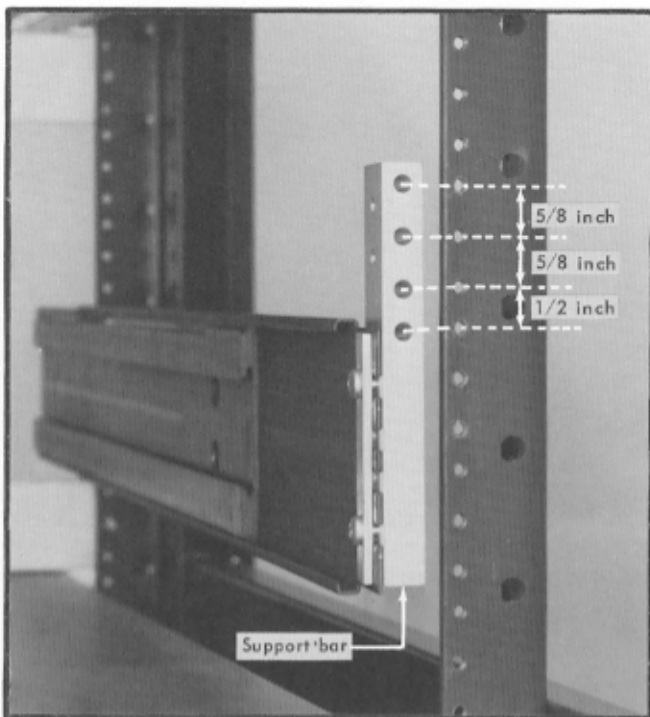

Fig. 9-9. Vertical mounting position for rear end of slide-out tracks. Left stationary section is shown.
4. With the front end of each stationary section attached to the front rail, hold the track in a level position in the rack and locate the proper rear-rail mounting holes. (See Fig. 9-9).